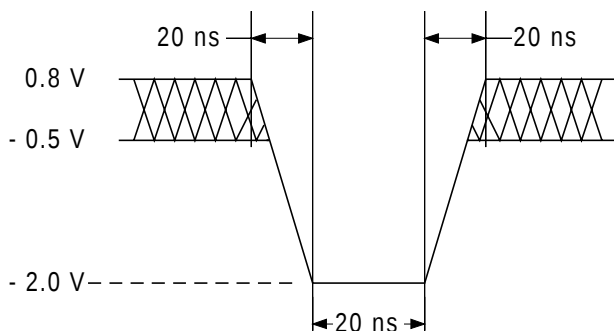
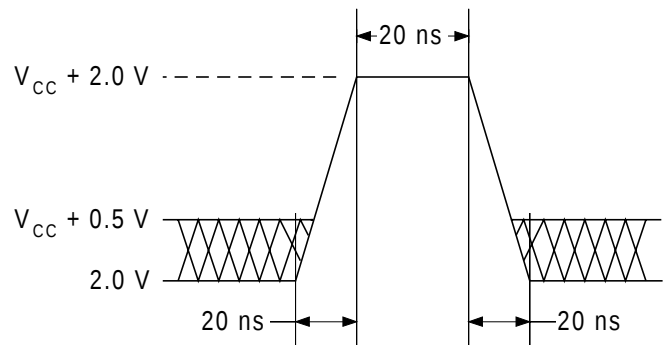

Figure 9. Maximum Undershoot Waveform
Figure 10. Maximum Overshoot Waveform
- Minimum DC voltage on input or I/O pins is -0.5 V. During voltage transitions, input or I/O pins may undershoot V_{SS} to -2.0V for periods of up to 20 ns. See Figure 9. Maximum DC voltage on input or I/O pins is $V_{CC} + 0.5$ V. During voltage transitions, input or I/O pins may overshoot to $V_{CC} + 2.0$ V for periods up to 20 ns. See Figure 10.
- Minimum DC input voltage on pins WP#/ACC, A[9], OE#, and RESET# is -0.5 V. During voltage transitions, A[9], OE# and RESET# may undershoot V_{SS} to -2.0 V for periods of up to 20 ns. See Figure 9. Maximum DC input voltage on pins A[9], OE#, and RESET# is +11.0 V which may overshoot to 12.5 V for periods up to 20 ns. Maximum DC input voltage on pin WP#/ACC is +10.5 V which may overshoot to 12.0 V for periods up to 20 ns.